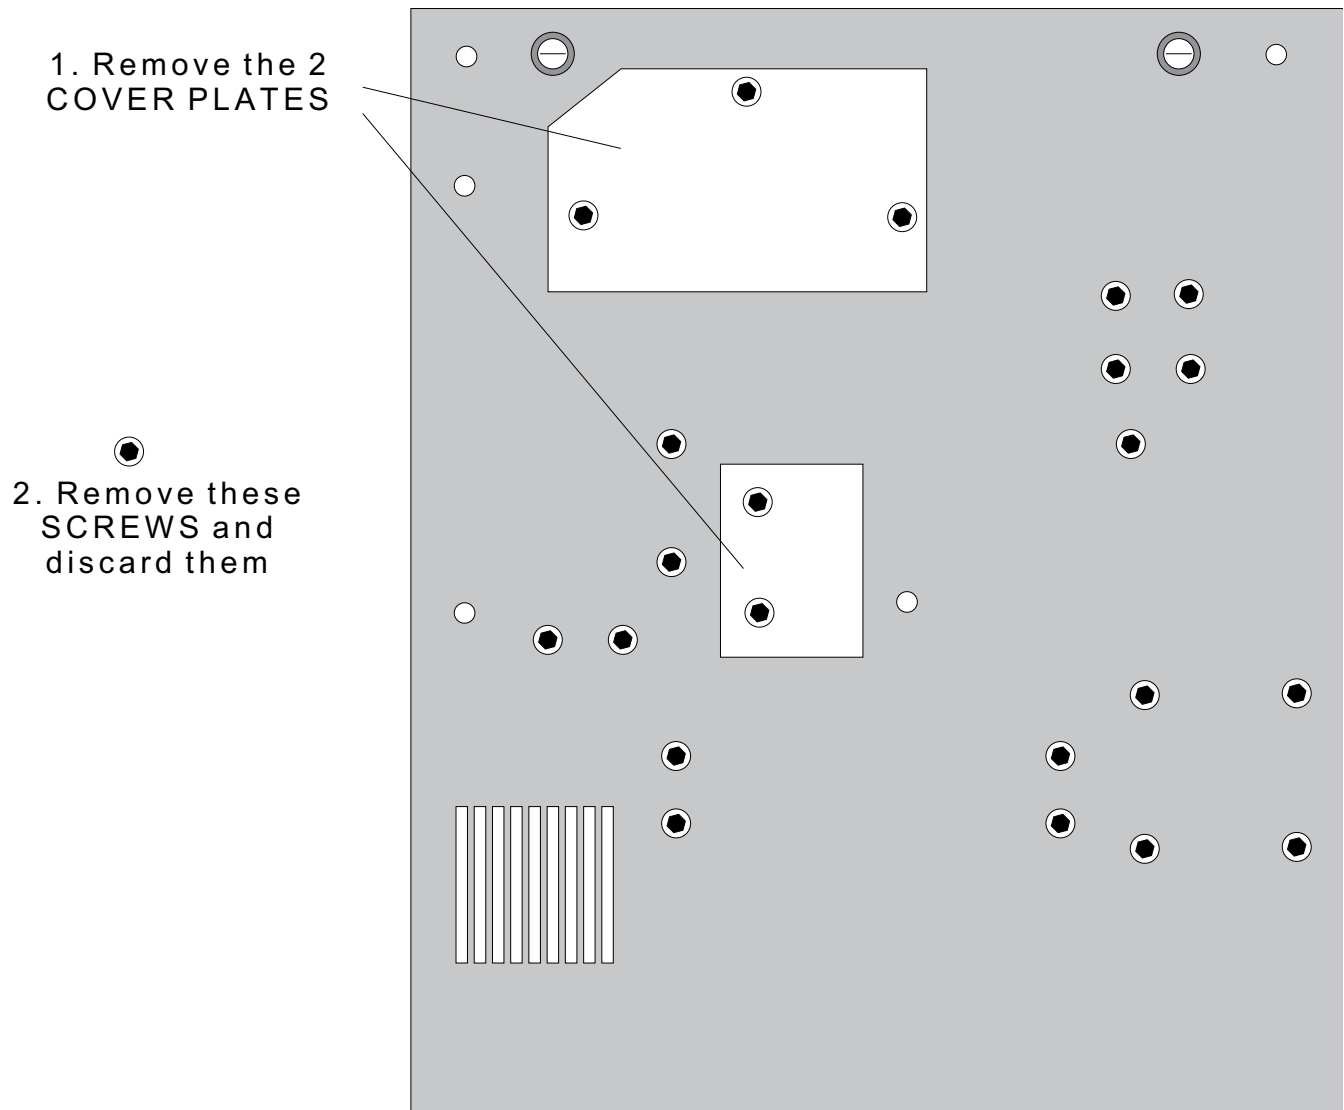

figure 1-3
4. Remove all SCREWS (marked with a Hex-head on figure 1-3) and discard them.
5. Remove the 2 COVER PLATES (see figure 1-3) and discard them.